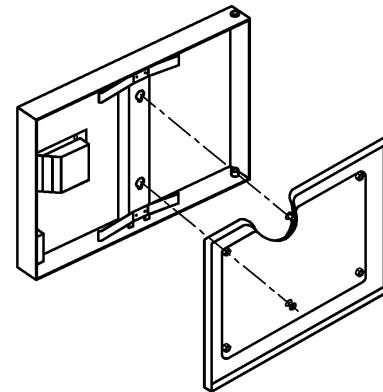

Figure 6-1 Door Gasket
- Remove the door gasket assembly (see Figure 6-1).